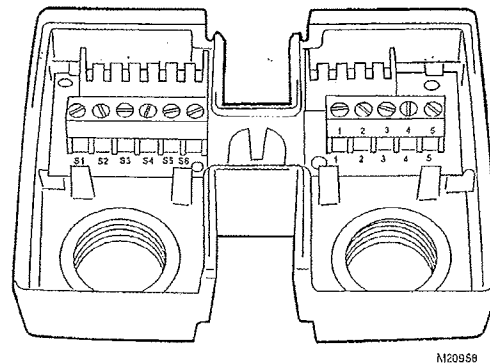

Fig. 10. Terminal block details.
6. Connect wires as appropriate to the terminal block(s). (See Fig. 10 and 11.)
See Fig. 10 through 26 for typical wiring details.